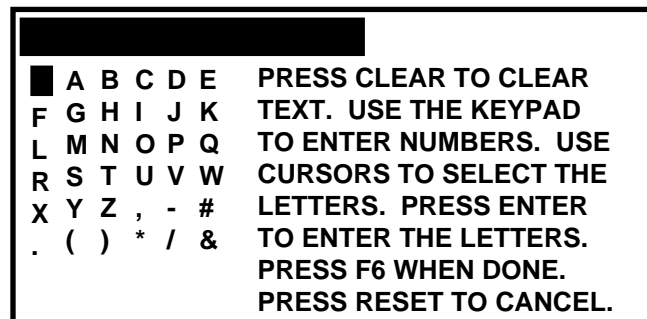

Figure 4-9. Custom Name screen superimposed over "Set cam names" display
1. Select "Custom 1", by highlighting and pressing Enter. Note that the custom name screen is superimposed over the display (refer to Fig.4-9, Pg. 70 for illustration).